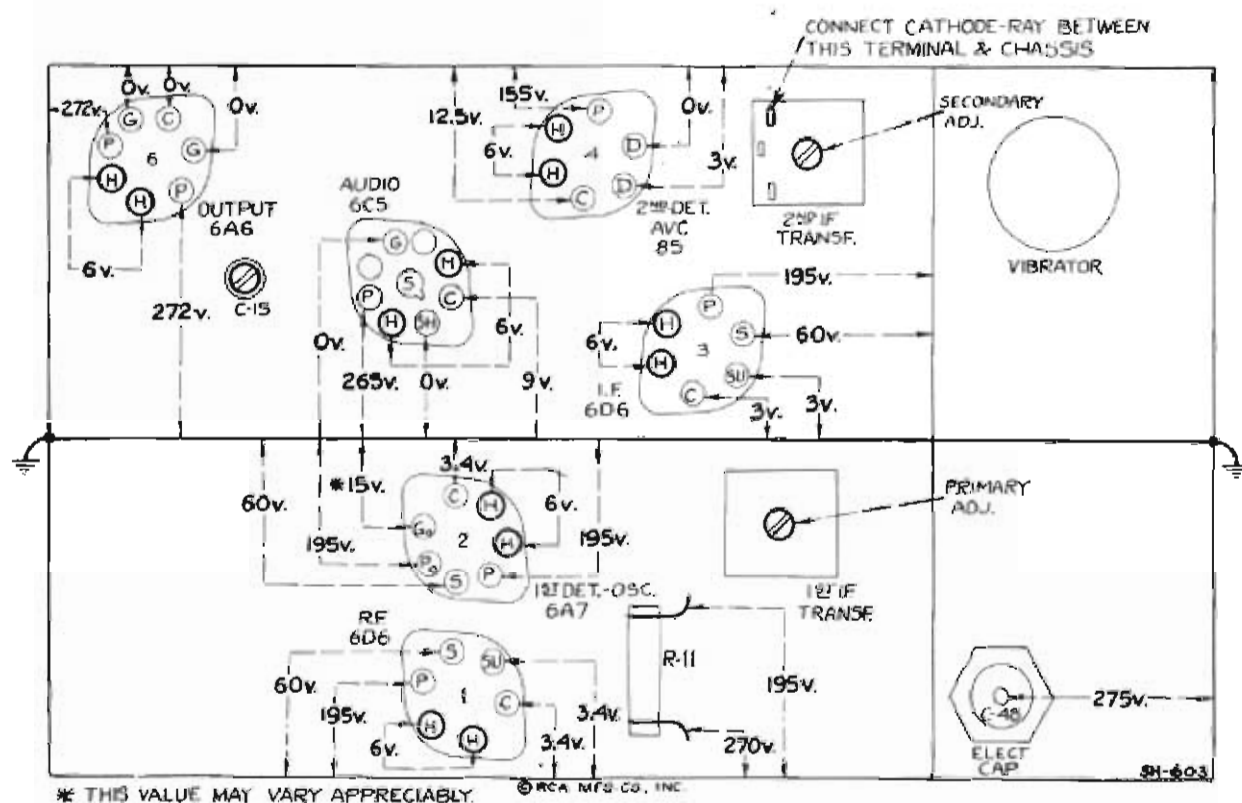

Figure 6—Radiotron Socket Voltages to Chassis
- (c) **INTERRUPTER**—Improper operation of the power supply interrupter is usually evidenced by reception of "sputtering noise." To check, remove the antenna connection and advance the receiver volume control (engine off). An increase in noise will usually indicate that the interrupter is in poor condition. Further investigation should be made by substitution of the interrupter with one known to be in good condition. No adjustments should be attempted on this unit. The operation of the interrupter and the associated rectifier system may also be proved normal by measurement of the filter output voltage, which should read steady at approximately 275 volts (d-c). The points of test are indicated by Figure 6.
made on the "A-Hot" wiring, power transformer, interrupter, and filter reactor to locate the defective part. If proper voltage is indicated at the filter output, then a thorough voltage analysis of the receiver circuit is in order. Figure 6 gives the values which should be obtained on a receiver in normal operating condition. Deviations from the specified values may be as much as $\pm 20\%$ before the operation of the receiver is appreciably affected. The absence or erratic reading of one or more of the voltages will indicate a fault in the particular circuit under test; in which case each transformer, resistor, capacitor, choke, and conductor of the circuit should be individually checked for open circuit, short circuit, and grounding. Reference to the diagram, Figure 2, will give the values of the circuit elements and their schematic relations. Figure 3 illustrates the physical locations of the parts and the color coding of the wiring. Defective parts should be renewed only with genuine factory tested replacements.
Operating conditions of the basic circuits of this instrument may be determined by measuring the voltages applied to the tube elements. Figure 6 shows the voltage values from the socket contacts to ground and appearing across the heater contacts (H-H). Each value as specified should hold within $\pm 20\%$ when this instrument is normally operative, with all tubes intact and rated voltage applied. Variations in excess of this limit will usually be indicative of trouble.